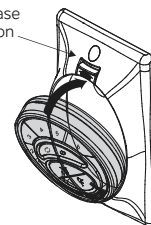

Fig. 22
Step 1. Insert the transmitter into the wall plate by inserting the bottom of the transmitter first and then pressing the top of the transmitter into the pocket. The transmitter will fully function from this location or you can remove the transmitter and use it as a hand held device. (Fig. 22)